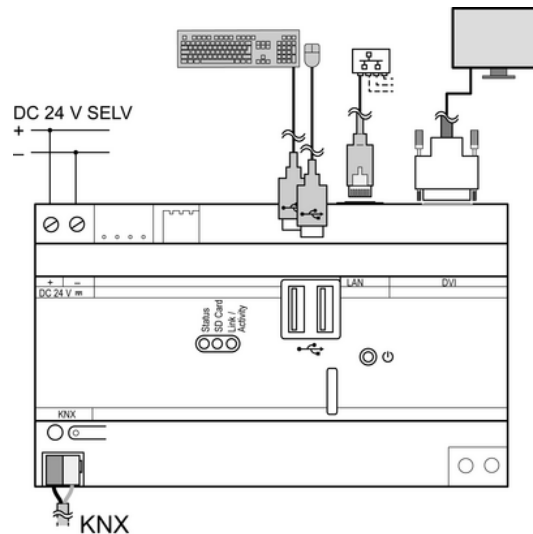

Figure 2: Connection example
- Connect power supply, keyboard, mouse, supply cable, monitor and KNX cable according to the connection example (figure 2).